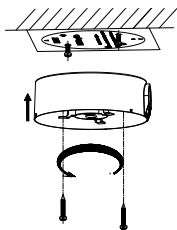

Figure 2-28 Fix the Junction Box
4. Attach the junction box to the ceiling and secure it by aligning the holes with two screws and rotating the junction box according to the direction as shown in Figure 2-28. Make sure the front arrows